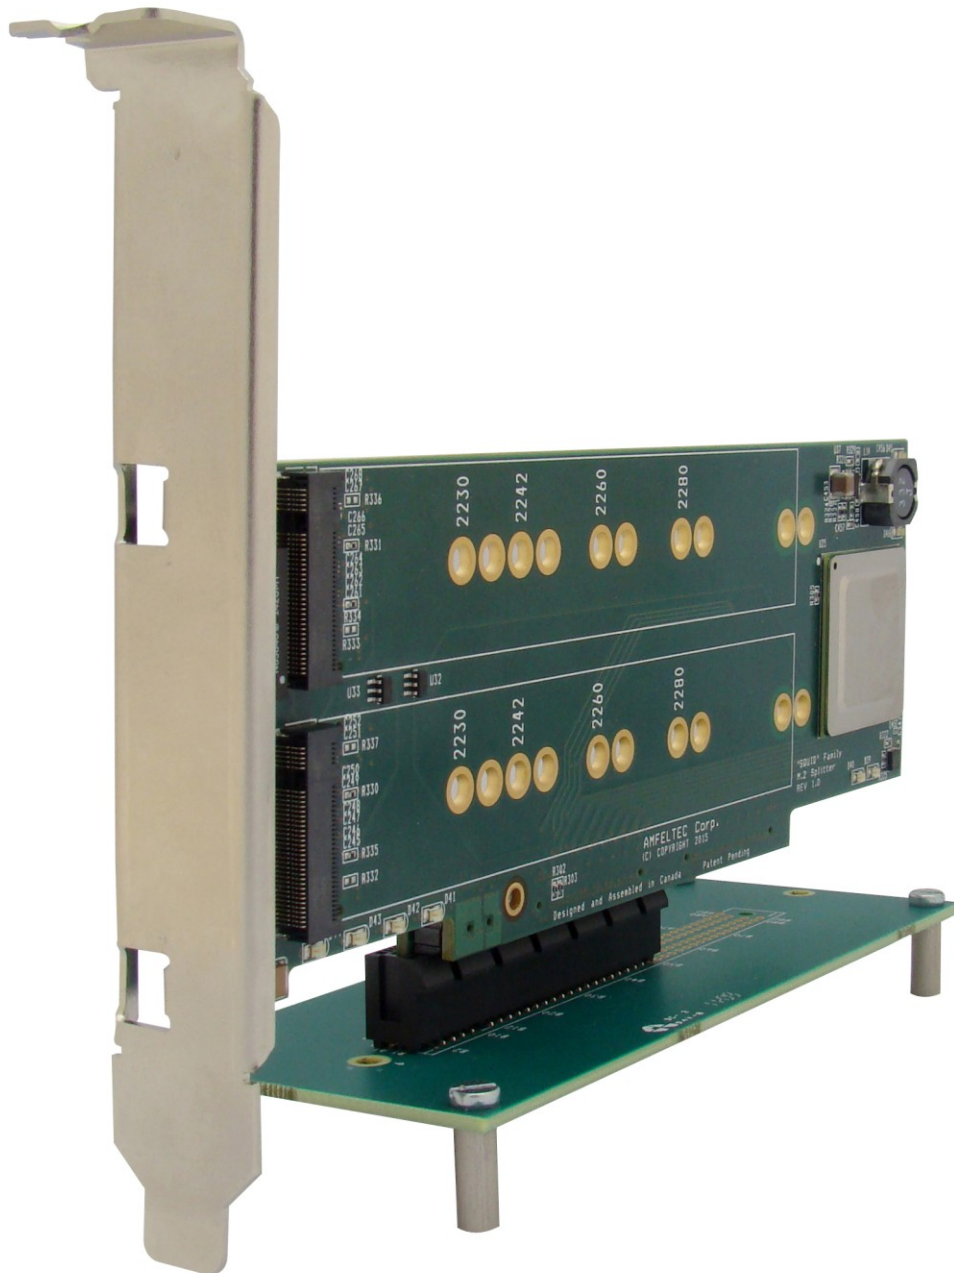
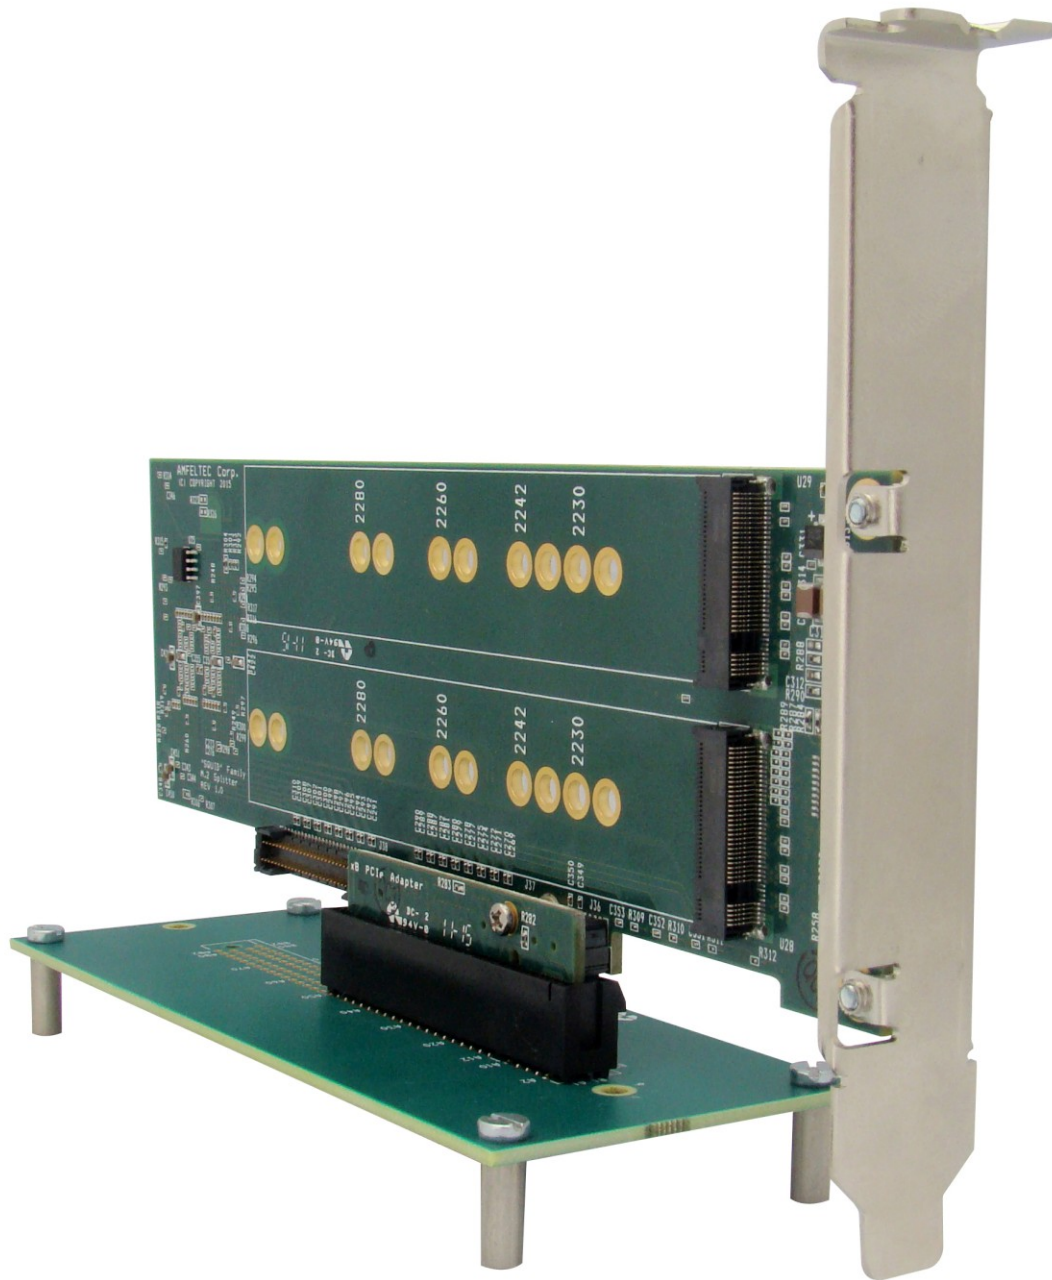

Figure 1: PCI Express Carrier Board for M.2 SSD modules (top)
Figure 2: PCI Express Carrier Board for M.2 SSD modules (bottom).
1. PCI Express Carrier Board for M.2 modules (Figure 1, Figure 2)
2. x4 or x8 or x16 PCI Express Adapters (Figure 2)